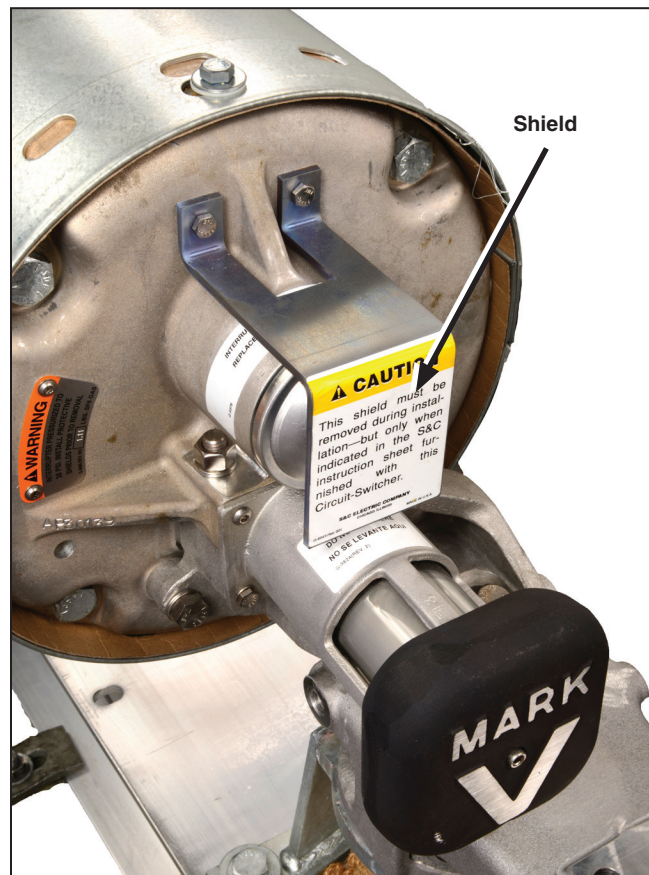

Figure 22. Removing the pressure relief device shield.
- STEP 5.** Remove and discard the shield for the pressure-relief device. See Figure 22.